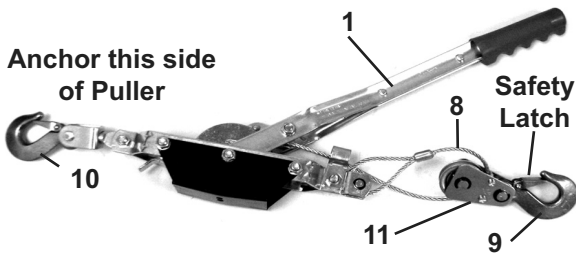

Figure 1
2. Connect the Load Hook (9) to the load. Make sure the load is rated within the capacity of the Puller. See Figure 1.
3. Position the Handle (1) to the Load Hook (9) side of the Puller as shown in Figure 1.
WARNING: Make sure that the Load Hook (9) closes completely when it is attached to the load. **IF IT DOES NOT CLOSE COMPLETELY DO NOT USE THE PULLER.** See Figure 1.